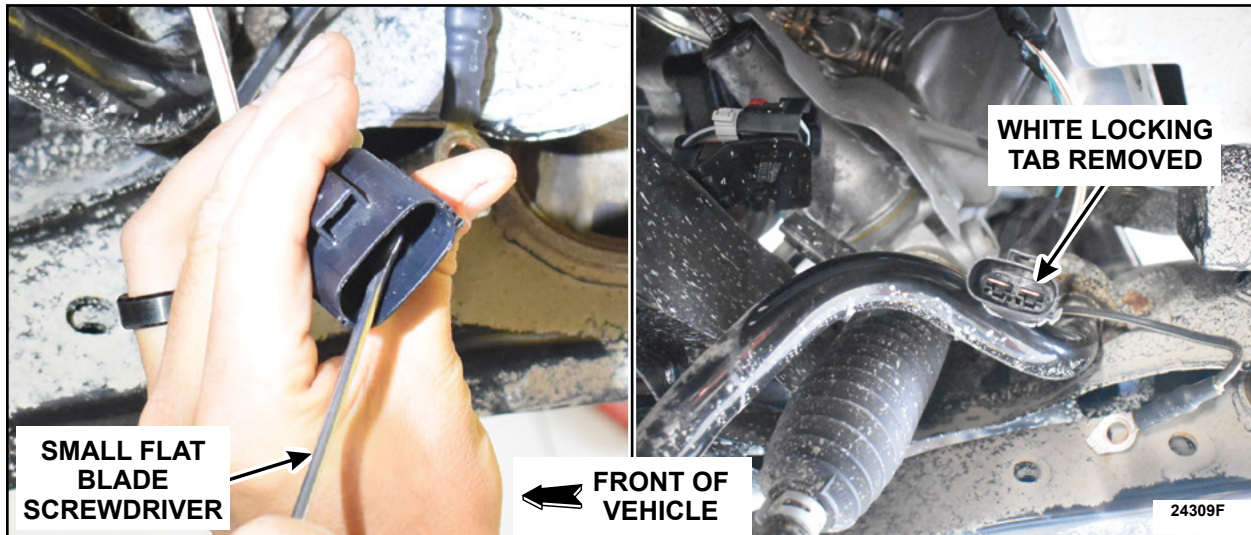

FIGURE 6
9. Using a small flat blade screwdriver, release and remove the white locking tab within the electrical connector. See Figure 6.